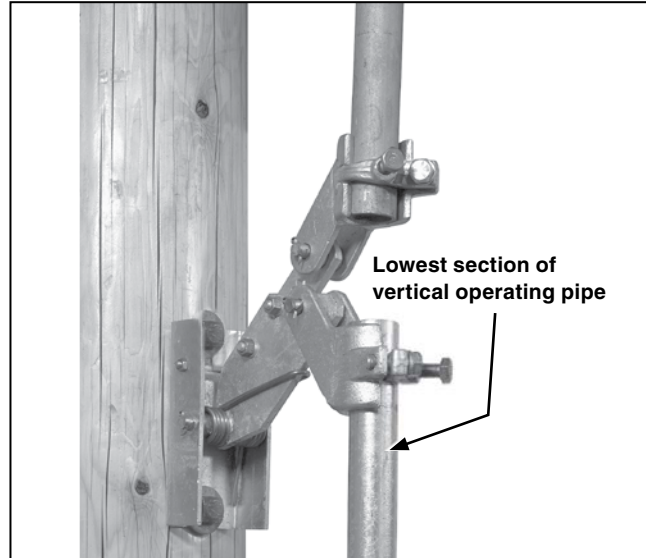

Figure 24. Installing the lowest operating pipe section into the rod guide.
STEP 22. Insert the upper end of this pipe section in the lowest rod guide or, if only one vertical operating pipe section is used, the offset coupling attached to the switch drive lever. While holding the operating handle at a point approximately 20 degrees from the **Closed** position, torque the rod guide (or switch drive lever) coupling clamp bolt. See Figure 24.